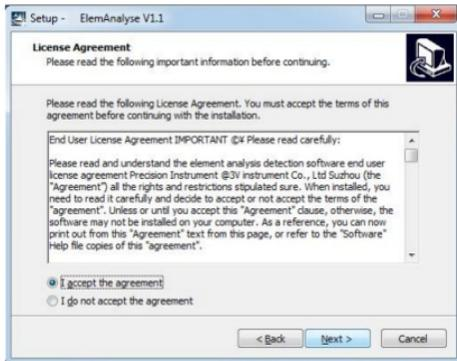

Figure 5-3
3. Select "I accept the agreement", click "Next", as shown in figure 5-3 interface.